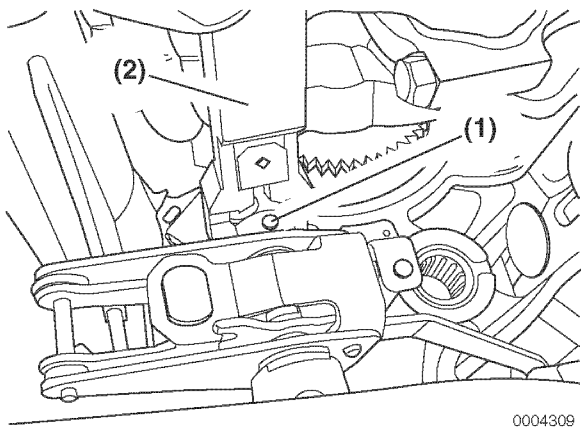

Figure 6-84
3. Remove the tapered pin (**Figure 6-84, (1)**) that fastens the governor lever to the throttle shaft using the special throttle shaft pin removal tool (**Figure 6-84, (2)**). See *Special Service Tools* on page 6-20 for the appropriate tool number.
4. Position the pin removal tool on the throttle shaft as shown (**Figure 6-84**).